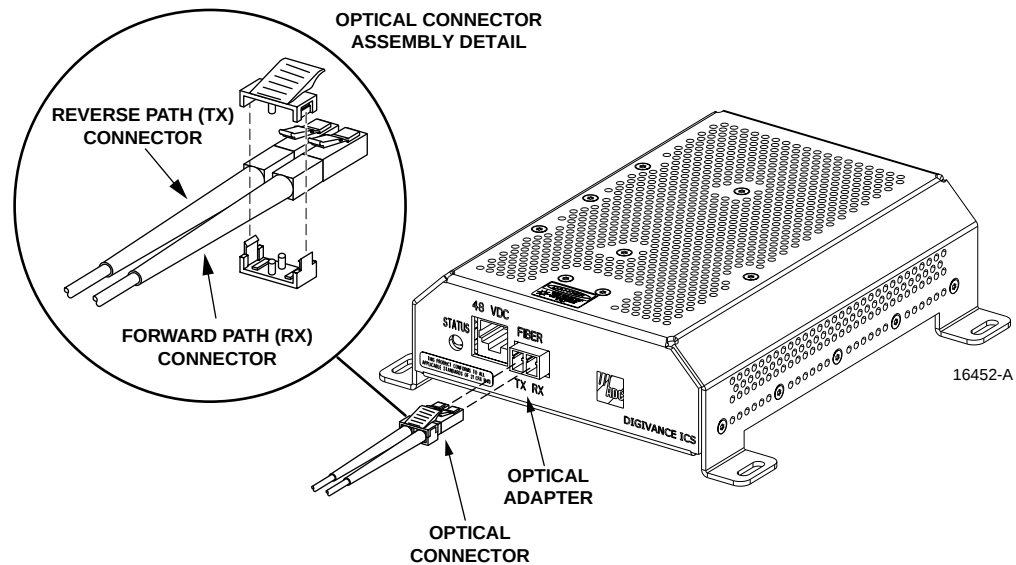

Figure 15. Optical Port Fiber Optic Cable Connection
3. Use the plastic joiner provided with the LC optical connectors to join the DRU forward and reverse path connectors together as shown in Figure 15. Make sure the **forward path** and the **reverse path** connectors are oriented as shown.
- **Note:** When viewing the DRU optical transceiver from the front, the forward path port is on the right (RX) and the reverse path port is on the left (TX).
5. Clean each connector (follow connector supplier's recommendations) and then insert the optical link connector pair into optical port as shown in Figure 15.